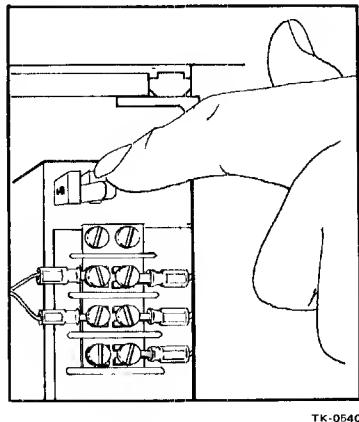

Figure 5-21 Door Lock Override Mechanism
2. Pull open the drive's front cover. Referring to Figure 5-21, locate the door lock override mechanism; it is an arm protruding from the door lock solenoid. Press the mechanism downward; while holding down, push the door and start sliding it toward the rear. Release the mechanism and push the access door all the way back.